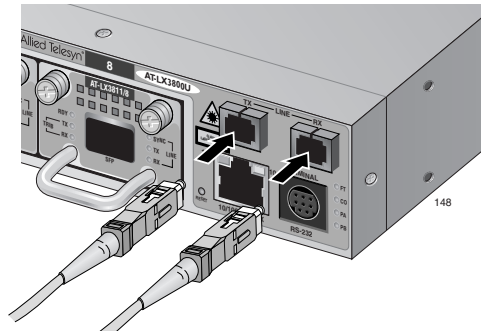

Figure 34. Connecting the TX and RX Cables
4. Connect the appropriate fiber optic cable to the TX and RX line ports, as shown in Figure 34.